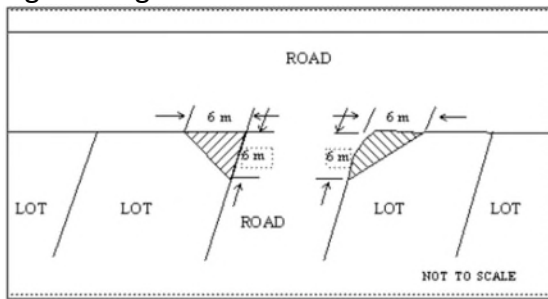

Figure 8 Sight Triangle
6. No buildings or structures shall be located within the sight triangle, as shown in Figure 8 Sight Triangle.
20. Landscaping shall be designed so that no plantings occur within the required sight triangle, as shown in Figure 8 Sight Triangle.